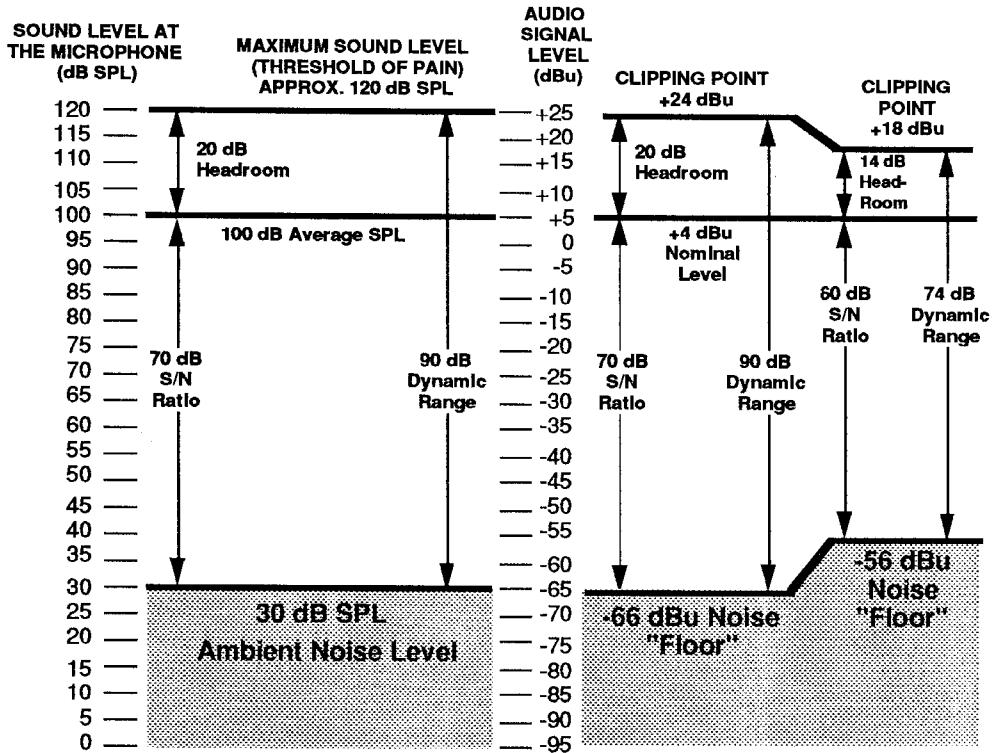

Figure 4-1. Dynamic range and headroom
Figure 4-1 illustrates headroom and dynamic range in a typical sound system, both in acoustical and electrical terms. The S/N Ratio shown in this illustration refers to *Signal-To-Noise Ratio*, which represents the difference between the nominal level and the noise floor. It is shown so you can see how this specification is related to dynamic range and headroom. There is, however, one tricky aspect to the relationship between S/N, headroom and dynamic range: you can't always add the S/N ratio to the headroom and come up with the dynamic range.
- 2) Since the band has not changed its act, we know the program still has an acoustic dynamic range of 90 dB, as shown in Figure 4-1. It is apparent that 16 dB of the program will be "lost" in the sound system ( $90 \text{ dB} - 74 \text{ dB} = 16 \text{ dB}$ ).